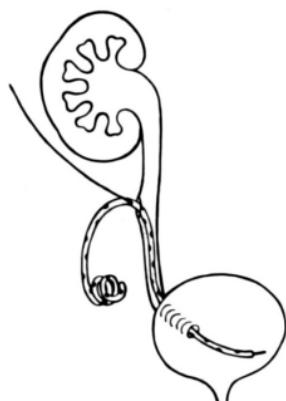

Fig. 3
2. Straighten one coil with the wire guide. Advance the stent through the incision in the ureter and into the bladder (**Fig. 3**).